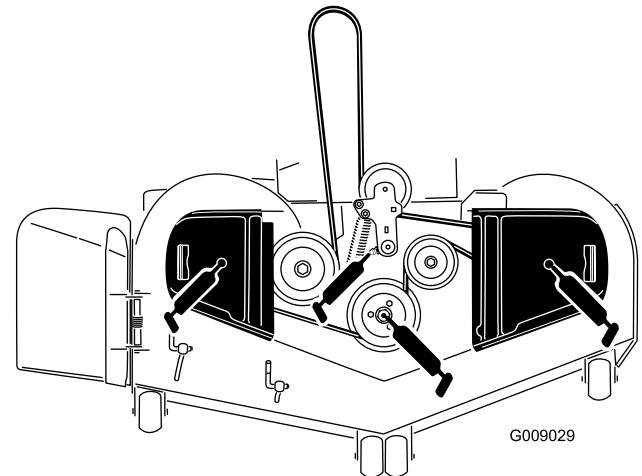

Figure 42
3. Grease the mower deck idler pulley pivot until grease come out the bottom (Figure 42).
4. Grease the fittings on the side of the 3 spindle bearings until grease comes out the bottom (Figure 42).
5. Grease the drive belt idler arm (Figure 42).